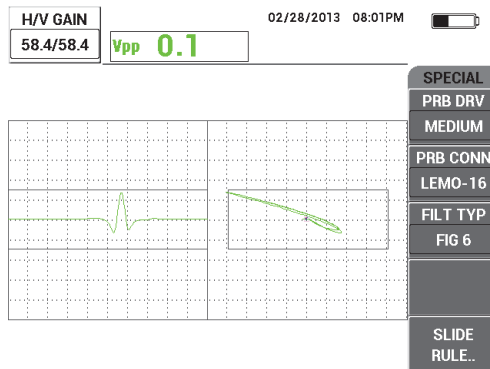

Figure 5-66 Adjusting the gain
7. Press the GAIN key (**dB**), and then decrease the horizontal gain until the notch signal is contained within the first horizontal division (10 % horizontal) [see Figure 5-66 on page 175].